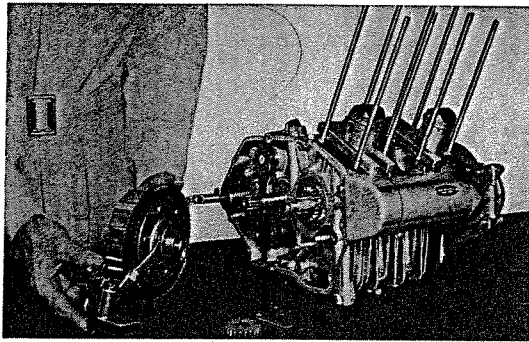

Fig. 3.61 Removing outer clutch and pump body
7. Remove the outer clutch (complete) together with the oil pump (complete). (Refer to Fig. 3.61)